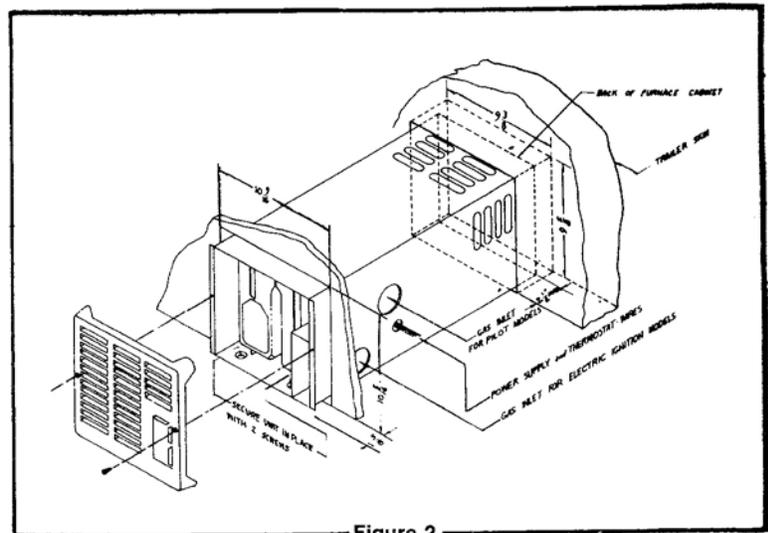

Figure 2
NOTE: Side and top clearances of furnace cabinet may be 0" for through the wall installations up to a maximum of 2-1/2" wall thickness. (See Figure 2.)
4. Cut or frame an opening in the coach cabinetry 10-9/16" x 10-3/16" as shown in Figure 2 or Figure 3.
5. Slide the front of the furnace through the opening and extend it beyond the coach cabinetry 1-3/8" as shown in Figure 2 or Figure 3.
8. If X - Y is less than 21", then an opening 9-5/8" x 9-3/8" must be cut through the inner wall only. DO NOT CUT THROUGH COACH SKIN. (See Figure 2.) Next, locate the center line of the exhaust and intake tube. Cut two 2-1/4" diameter holes through the outer skin as shown in Figure 4.
NOTE: Whenever the furnace cabinet is installed through the outside wall, the return air louvers on the furnace cabinet must not be blocked. The maximum projection of the furnace cabinet into the wall is 2-1/2". (See Figure 2.)
11. Secure furnace to the floor using the two holes provided in the front area of the furnace cabinet. (See Figure 2 or Figure 3.)